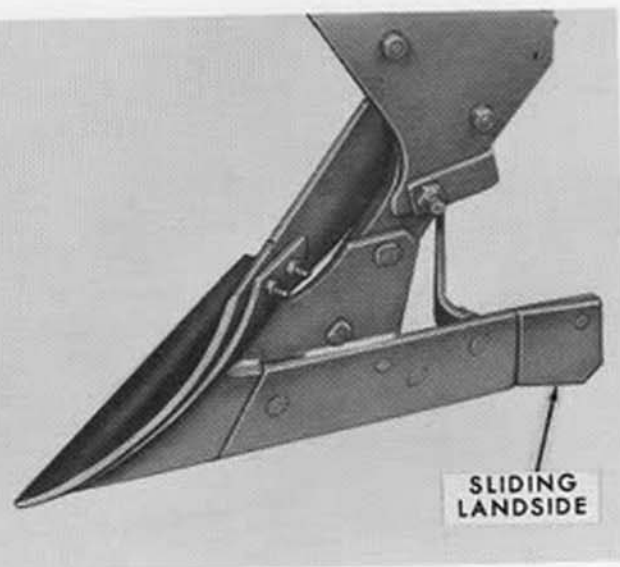

Figure 28
**IMPORTANT:** Before tightening the bolts, push down on the point of the share to remove any slack in the attaching holes. Be sure to install the beam stop, Figure 28.
Install the sliding landside assembly on the rear bottom with the two 5/8" flat washers and existing bolts, as shown in Figure 28.